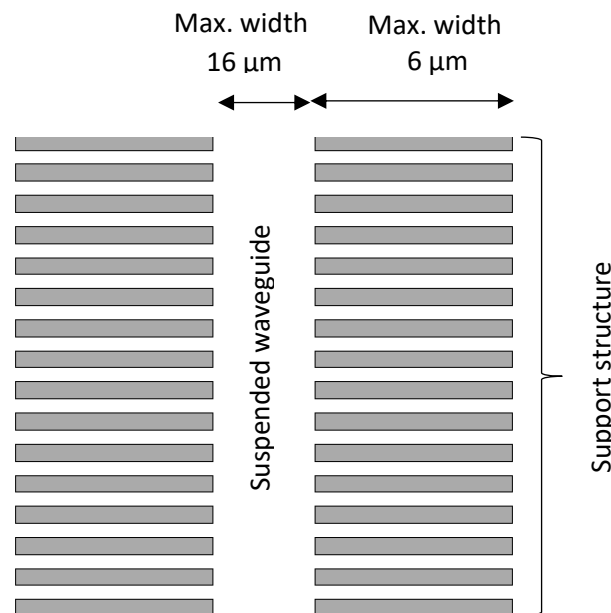

Figure 1: Design rule for suspended and supporting/subwavelength structure maximum width
- After HF etch, the expected lateral BOX undercut is 8 µm. Therefore, the maximum width of suspended structures should be 16 µm (see Figure 1).
- Width of the supporting structure/subwavelength structure <6 µm have proven to work (see Figure 1). **If you try more challenging dimensions, do so at your own risk.**
[§] After HF etch, the expected lateral BOX undercut is 8 μm . Therefore, the maximum width of suspended structures should be 16 μm (see Figure 1).
^αWidth of the supporting structure/subwavelength structure <6 μm have proven to work (see Figure 1). **If you try more challenging dimensions, do so at your own risk.**